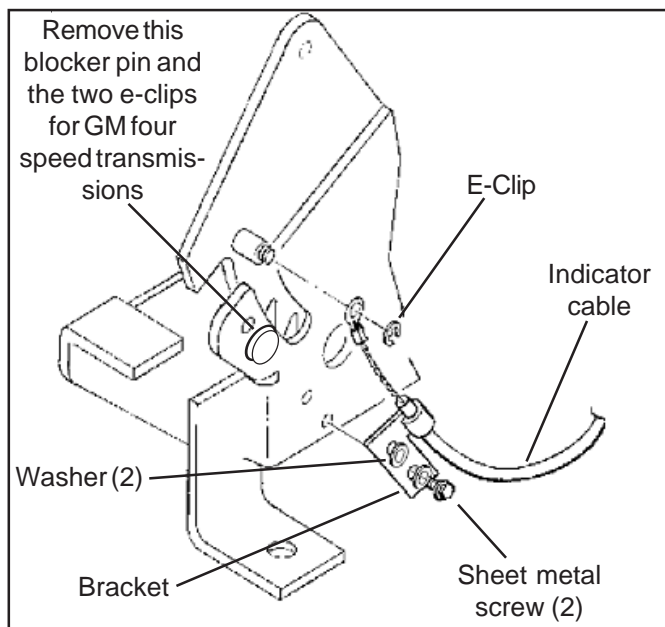

Figure 3
STEP 7. Just before the final installation of the shifter in the vehicle, attach the indicator cable to the side of the shifter as shown in **Figure 3**. The indicator cable bracket is secured to the shifter mechanism with two 6x1/4" tapping screws and two #8 washers, the eyelet on the end of the indicator cable is secured to the cable pin by a supplied small e-clip. The **B&M** top cover plate with the gear position indicator is attached to the other end of the indicator cable.